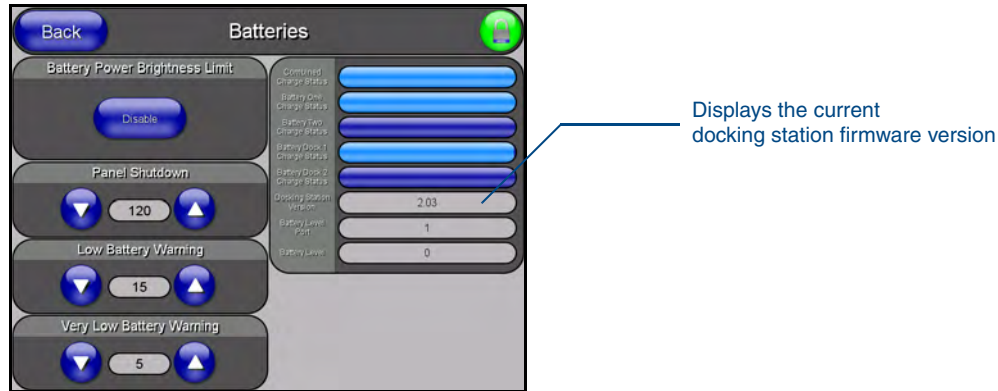

FIG. 2 Batteries page
A completely discharged battery requires one full charge cycle from within battery compartment #1. Refer to FIG. 2 on page 2 for locations.
3. Press the **Batteries** button to open the Batteries page (FIG. 2).